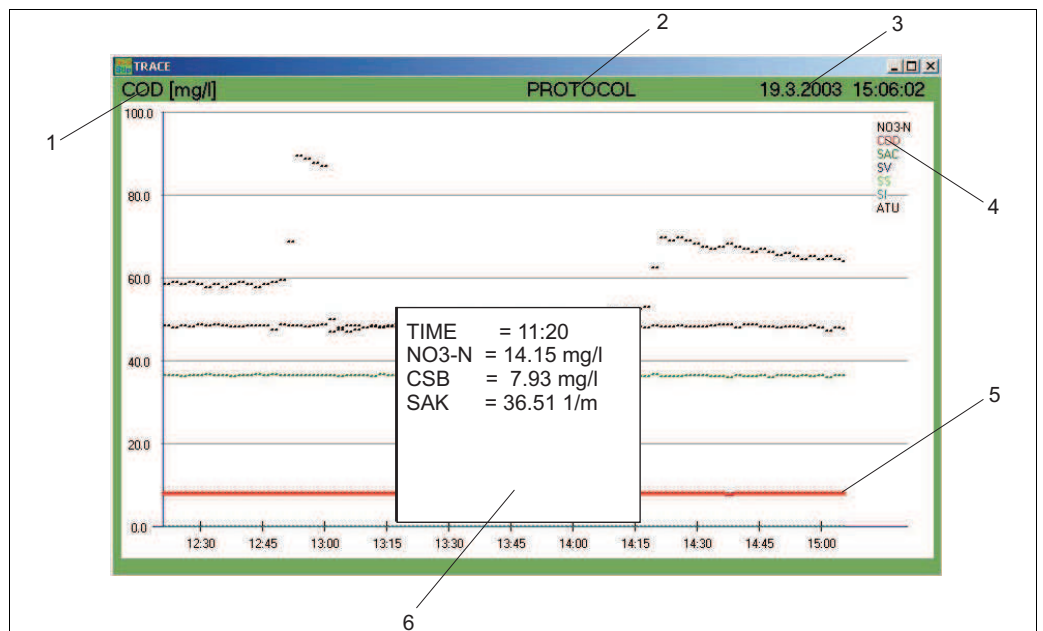

Fig. 29: Current trace
1. Click on the parameter (pos. 1, Fig. 29).
Click on PROTOCOL (pos. 2, Fig. 29), to access the daily log.
Date and time are displayed in the menu bar (pos. 3, Fig. 29).
The selected measurement parameters are displayed in pos. 4, Fig. 29. The color is used to identify the associated trace (pos. 5, Fig. 29).
Click within the diagram along the X axis. The measured values are then displayed in a window (pos. 6, Fig. 29) according to time.